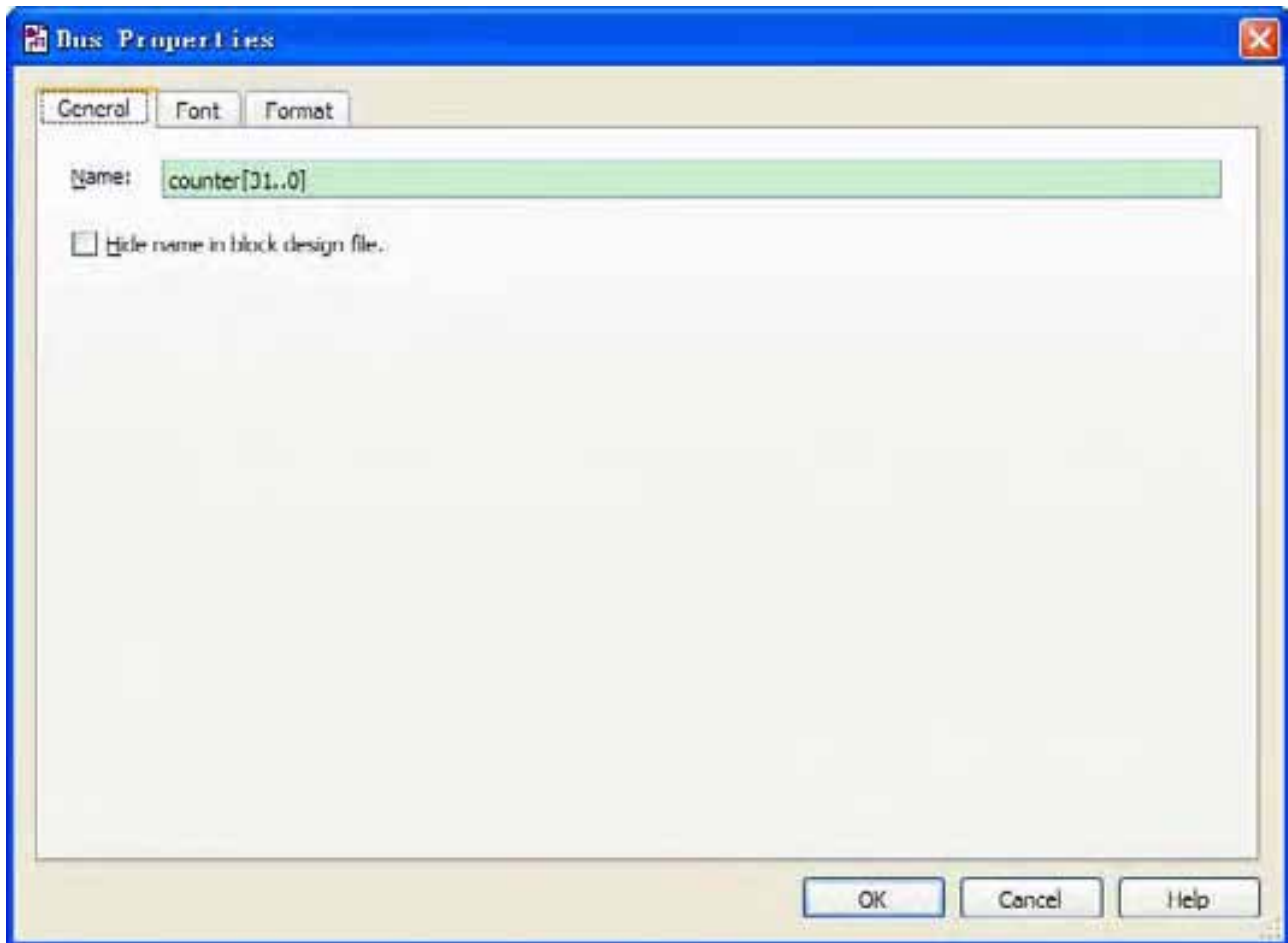

Figure 6-31 Change the output BUS name
3. Type counter [31..0] as the bus name (see Figure 6-31). The notation [X ..Y] is the Quartus II method for specifying the bus width in BDF schematics, where X is the most significant bit (MSB) and Y is the least significant bit (LSB).